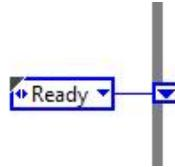

FIGURE 2.7 Wiring the state control to the shift register.
3. Right-click on a blank space in the diagram and choose **Select a VI...**. From the dialog that pops up, select the new control you just created (it will have the extension .ctl), and wire it as in Fig. 2.7, so that the first state the machine enters is the Ready state.